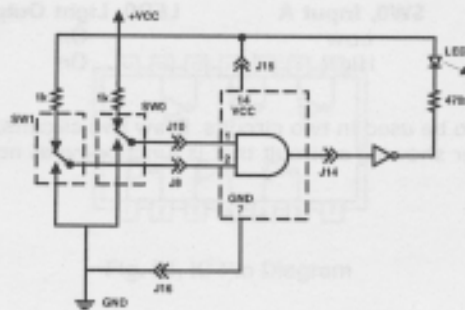

Fig. 31, Circuit Diagram
7. Repeat Steps 4 and 5 for the next two XOR Gates and for Pins 8-9, 10-11, and 12-13 (see Figure 31).